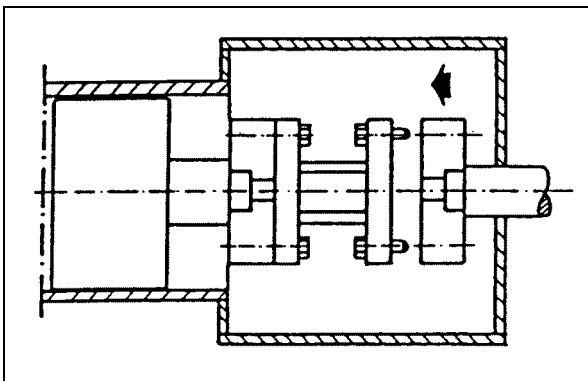

Fig. 4
- Insert distance piece and screw together with pumping piston. (Fig. 4)